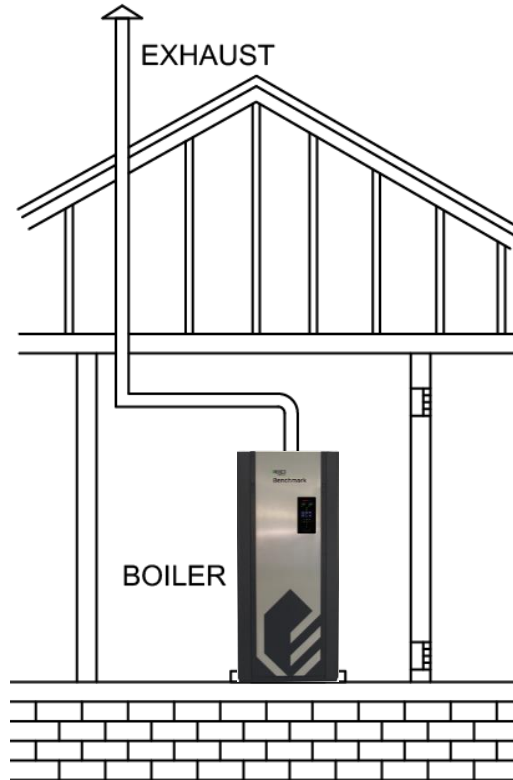

Figure 2: All Combustion Air from Adjacent Indoor Spaces through Indoor Combustion Air Openings
- One opening must commence within **12 inches (300 mm)** of the top of the enclosure, and one opening must commence within **12 inches (300 mm)** of the bottom. (See Figure 2).